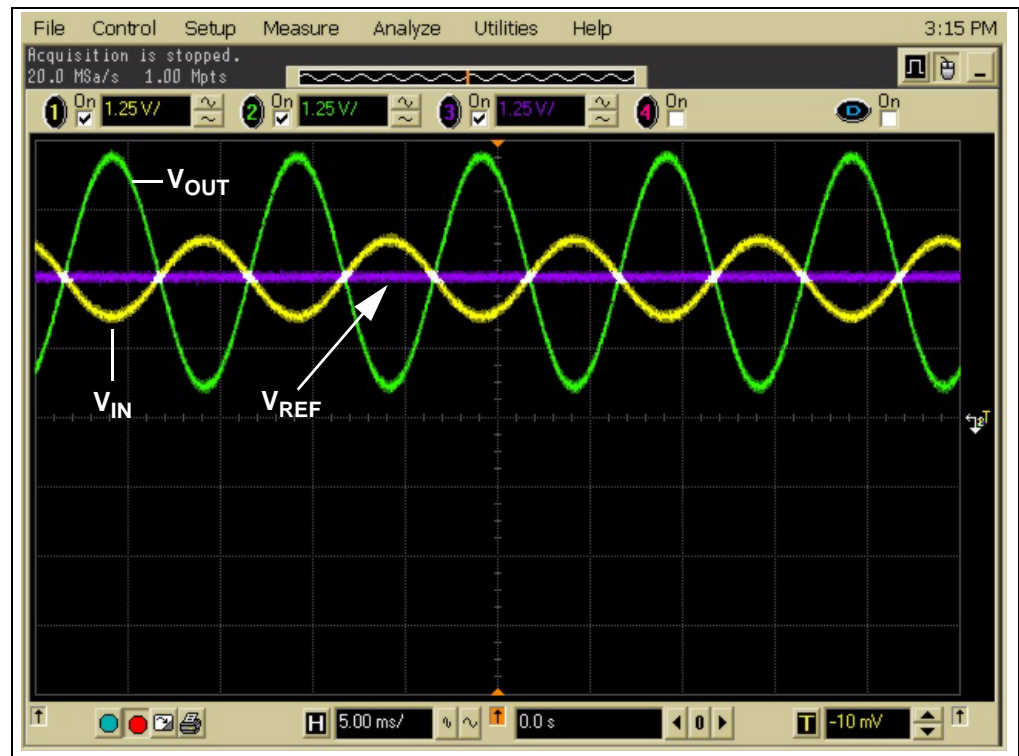

FIGURE 2-17: Measured Sine Wave Response.
- The measured sine wave response is shown in Figure 2-17. It is a sine wave signal with a frequency of 100.0 Hz, a peak-to-peak voltage of 4.2V and a center voltage of 2.5V